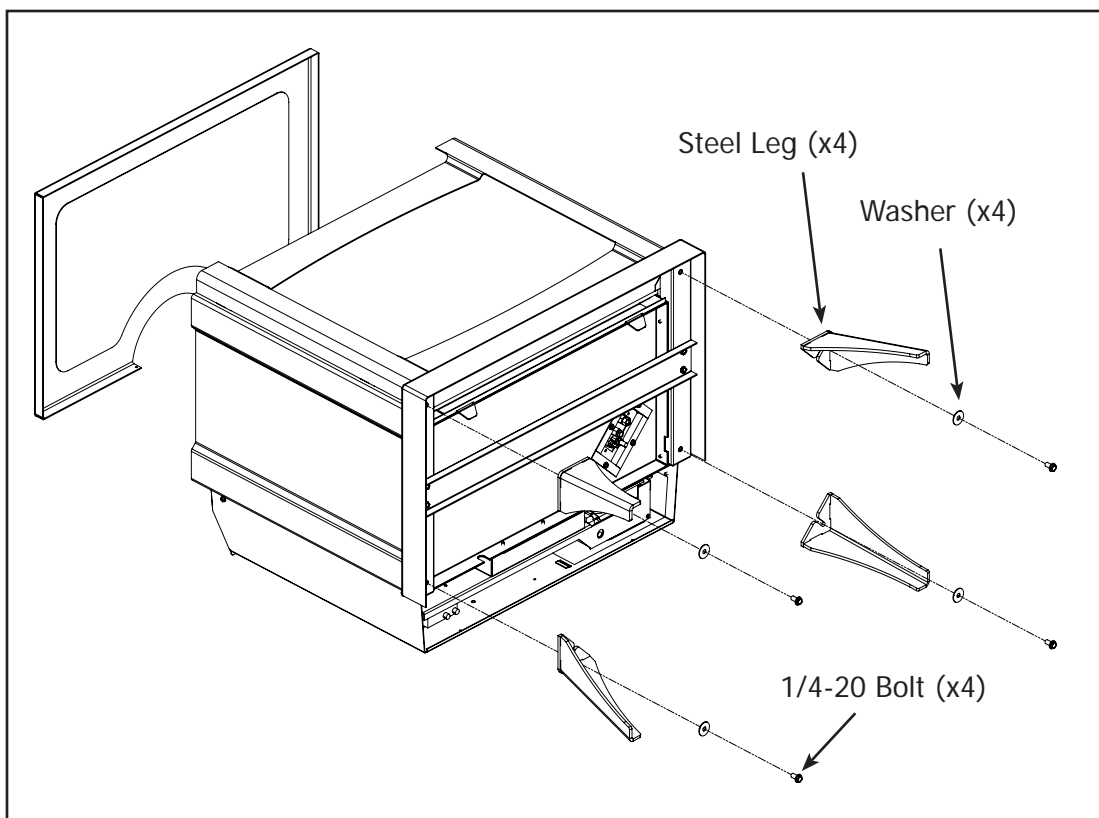

Figure 16: Leg Assembly
- Remove the stove top and carefully lay the unit down on its back and install the four steel legs using the supplied hardware and a 3/8" wrench or socket (see Figure 16). Stand the stove up.